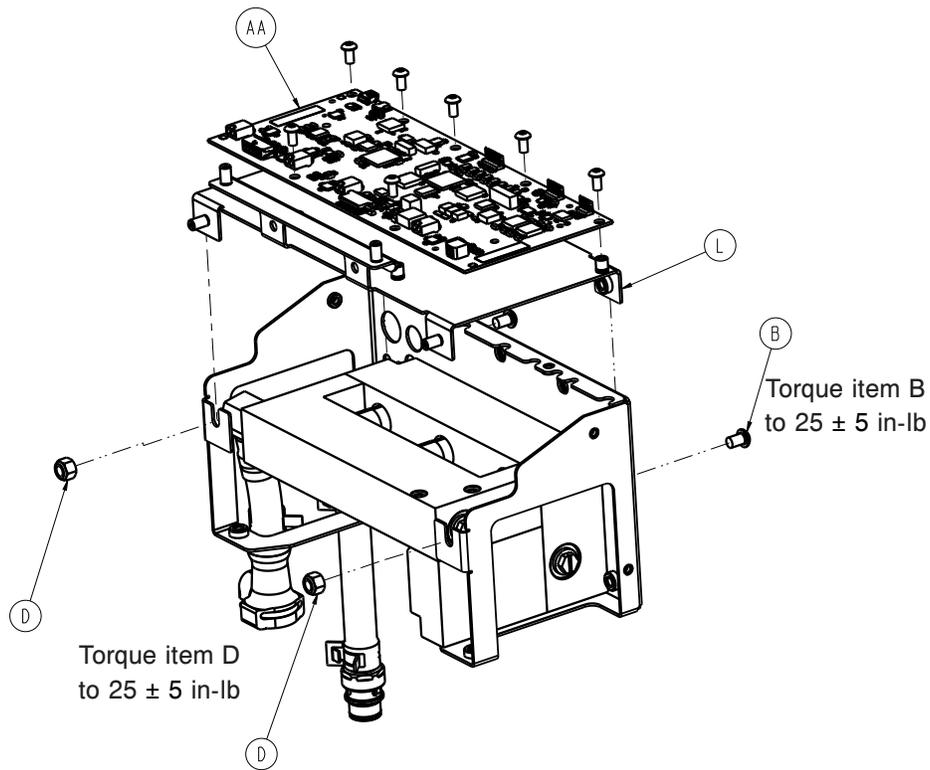

Figure 41 – MCB bracket
15. Using a T27 Torx driver, remove the two screws (B) (Figure 41) that secure the MCB bracket to the control assembly bracket. Save the screws.